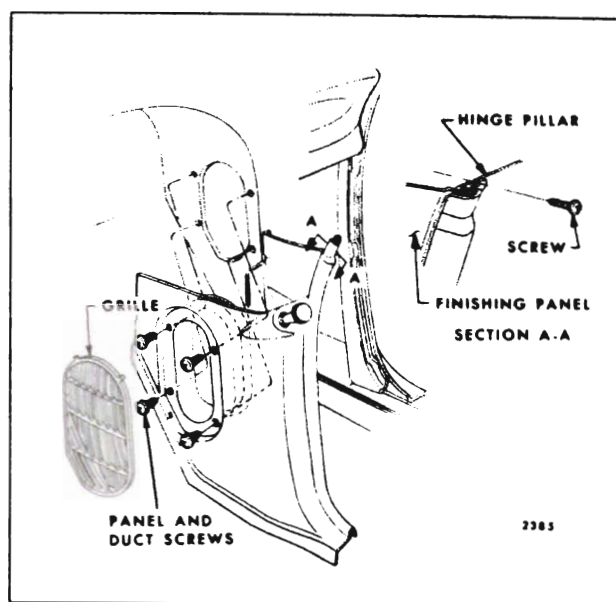

Fig. 5-4—Shroud Side Finishing Panel and Air Outlet Duct Assembly - "X-Z" Styles
1. With a flat-bladed tool (screw driver or equivalent), pry the outlet grille from the assembly (Fig. 5-4).
2. Remove screws attaching finishing panel and duct assembly to shroud (Fig. 5-4).
4. Remove finishing panel to hinge pillar attaching screw (Fig. 5-4), and remove assembly.